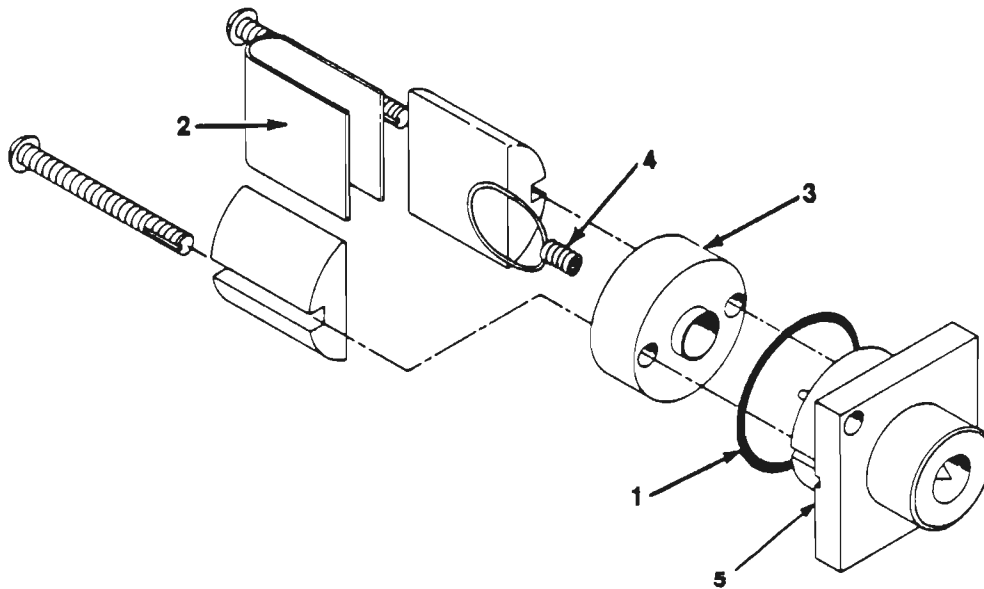

Fig. 8-9. Cold Cathode Gauge
**COLD CATHODE GAUGE (Fig. 8-9)**